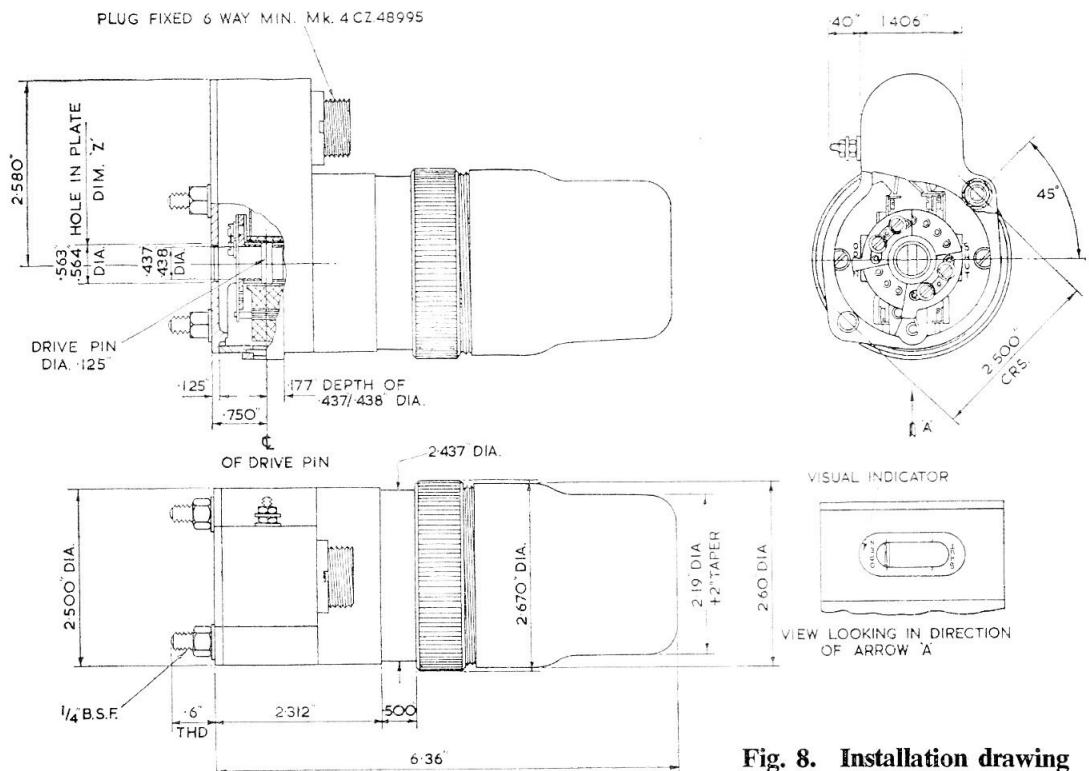

Fig. 8. Installation drawing
21. Installation drawing of the CZ82570/5 actuator is shown (*fig. 8*).